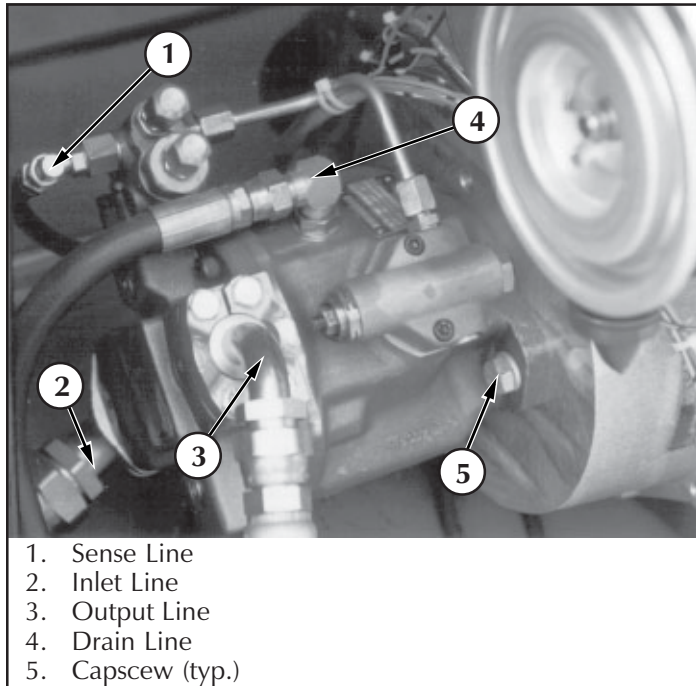

Figure 4-13: Hydraulic Pump
4.8 Hydraulic Pump (Figure 4-13)